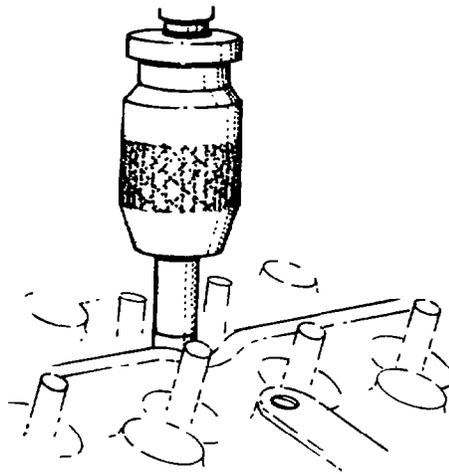

Fig. 16 — Reaming Sleeves
- e. Ream the new injection nozzle sleeves using tool J-23303 (see fig. 16).